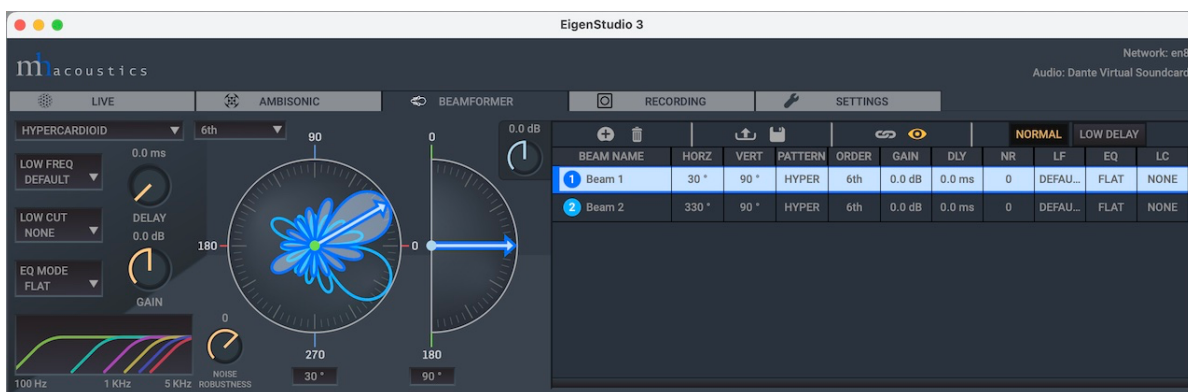

Figure 10: Beamformer tab showing 2 beamformer outputs with hypercardioid beampatterns.
Figure 10 shows the upper area part of the ES3 UI graphic window related to the Beamformer tab. In this figure there are two (2) defined output beams with 6th-order hypercardioid beampatterns. Note that the output beam names in the table to the right, can be customized by double tapping the mouse in the name box and entering in the desired name. Each beam has a steering direction, beampattern type (as defined above), order, offset delay and gain, as well as the Noise Robustness setting, the cutoff, and equalization filters. Control of these parameters is in the region shown in the panel to the left of the Beamformer table. The horizontal beampattern is shown in the circular graphic and the vertical steering is shown in the half circle graphic (with just an arrow to indicate steering up or down. The beampattern graphics can be “grabbed” with a mouse press and hold and then drag the arrow to the desired angle for horizontal and vertical angles. The edit boxes below these two graphic displays allow the user to type in the desired angles. In the upper left corner of the beamformer control panel, the user can select beampattern and order for the beam highlighted in the beampattern table.